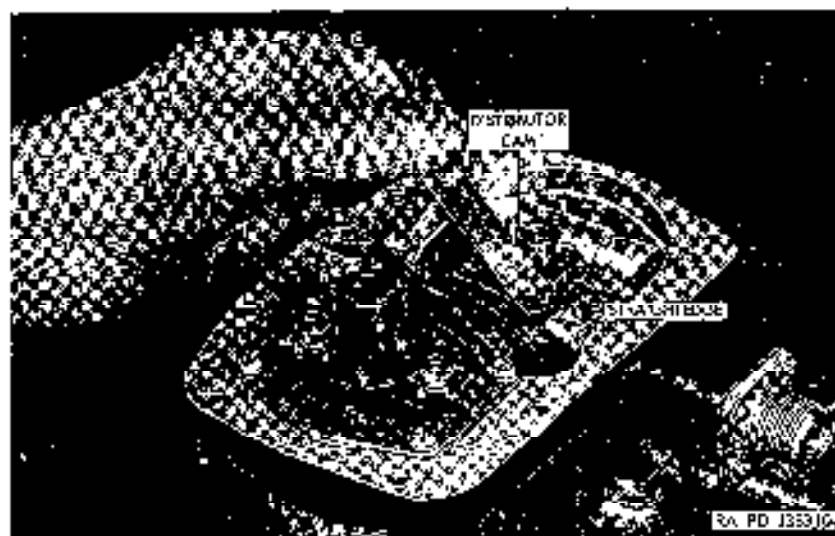

Figure 179. Preparing distributor housing and cam for distributor installation.
- (f) Remove cover and rotor from distributor and turn distributor shaft until lobe of cam trailing flat on cam assembly opens breaker points. Place a straightedge (fig. 179) against this flat and turn shaft until straight edge crosses edge of distributor housing between scribed marks.
- (g) Install new mounting gasket on top of distributor drive housing (N) and position distributor and cam assembly (D) on housing, engaging coupling at lower end of distributor shaft with coupling on upper end of drive shaft inside housing. Position the two distributor mounting clamps (R) on top of drive housing, and install two cap screws (T) and lockwashers. Tighten cap screws.
- (d) Adjust breaker point gap to (2) space.